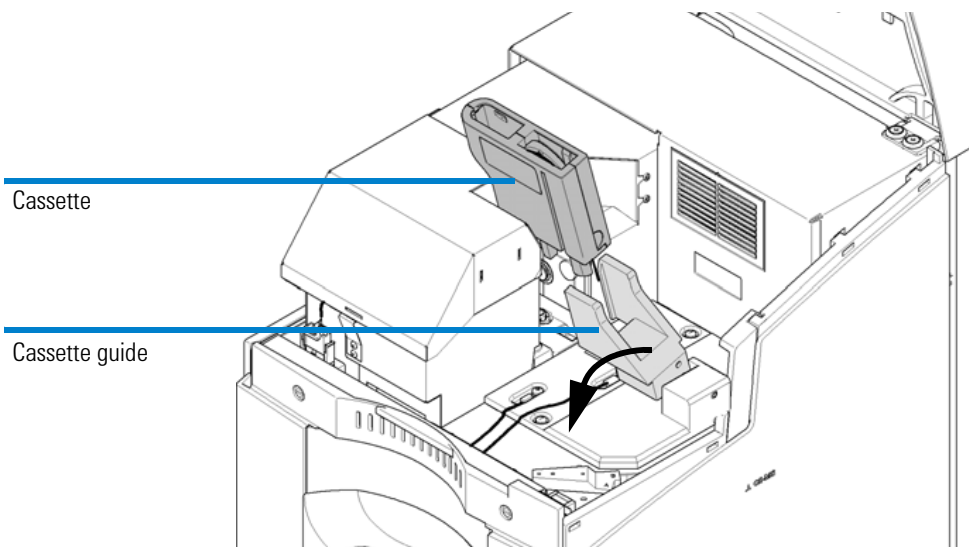

Figure 34 Insertion of cassette
- 3 Press a spring located in the middle of the front lid to release the latch. Figure 34 shows the position of an installed cassette.